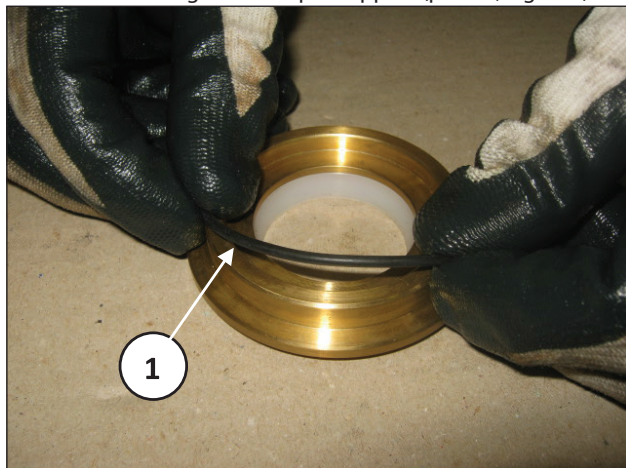

Fig. 126
Position the O-Ring on the wiper support (pos. ①, Fig. 126).